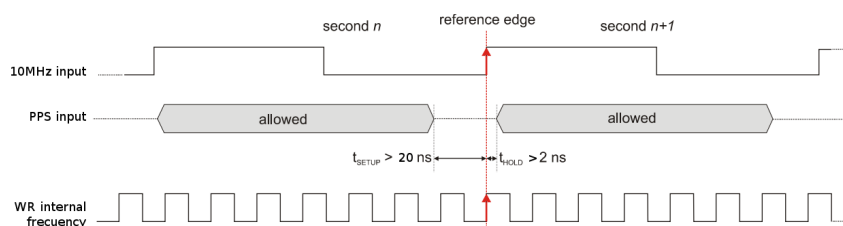

Figure 24: External reference requirements.
- t_{SETUP} (PPS-to-10MHz) > 20 ns (see Fig. 24)
The actual inter-second boundary is the 10 MHz rising edge after the rising edge of the PPS pulse (see Fig. 24).